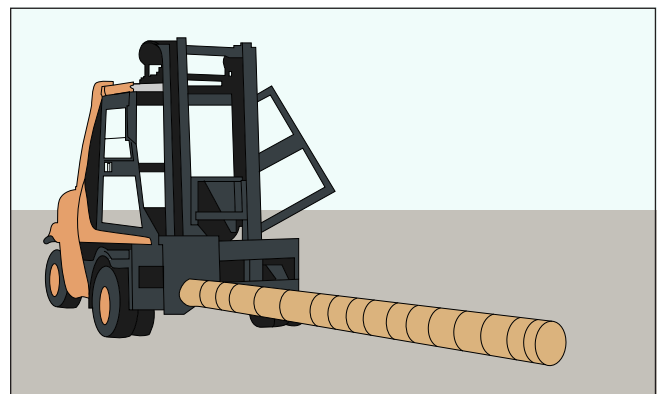

Fig. 15: De-nesting using a 'pin' inserted into the pipe profile
- Unpacking of nested pipes is best conducted at a suitable work stand and with the use of a forklift equipped with a "pin" device covered with rubber to avoid damages (Fig. 15). Removing smaller pipe profiles should be done by slightly lifting the padded pin of the forklift, placed inside the pipe, so that it supports the section of the removed pipe and it can be carefully removed from the set along with the pipe, without damaging other pipe profiles.